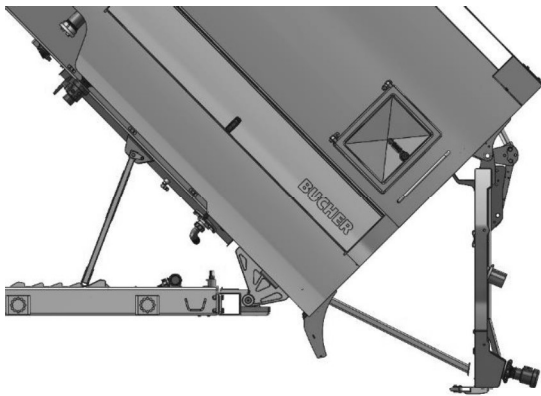

Fig 3
1. With the vehicle on firm level ground, raise the hopper to the fully tipped position and support on the hopper safety prop. see Fig 3
2. Open the hopper door so that it hangs vertically, with no load on the door cylinder. See Fig 3